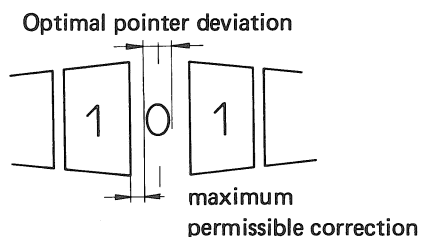

Fig. 4.9.-1
Turn tuning knob (40) slowly cw and ccw to detune while observing the pointer for symmetrical movement (see fig. 4.9.-1)